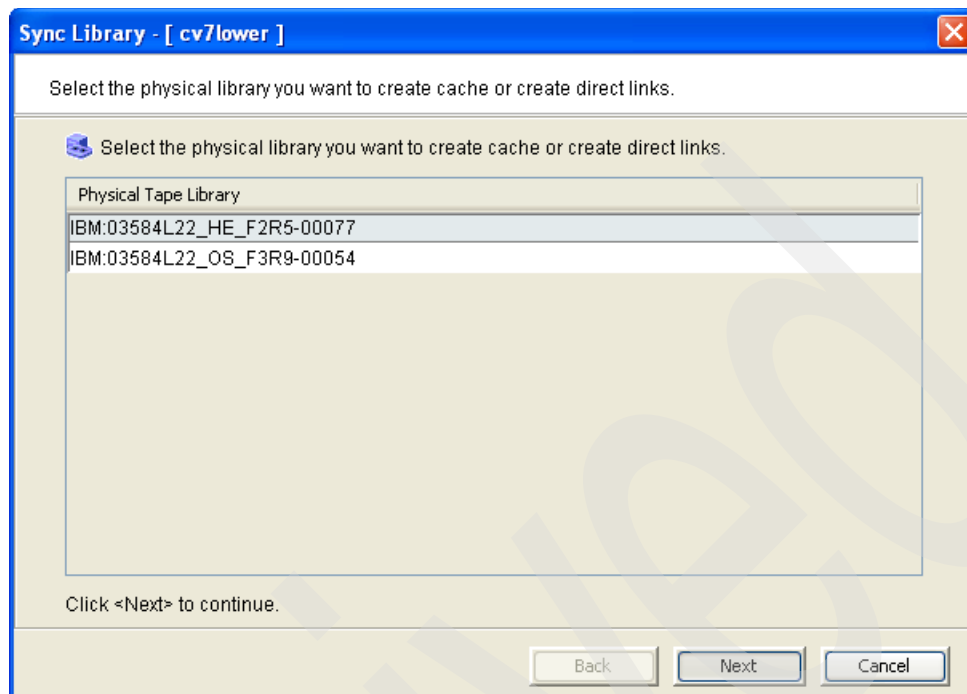

Figure 12-45 Select the physical tape library for cache creation
2. If you have multiple libraries, select the appropriate physical library (Figure 12-45).